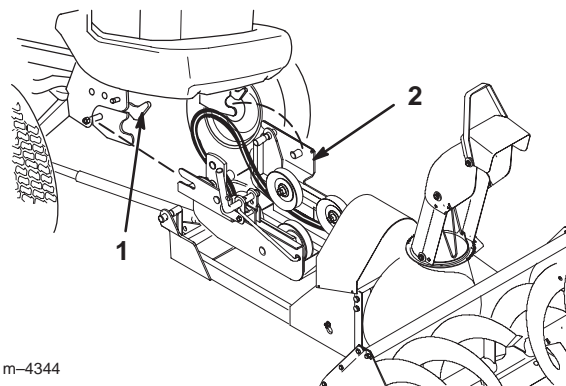

Figure 11
3. With the High-Low range selector in neutral "N," pull the tractor forward toward the snowthrower until the end of the snowthrower frame is just underneath the tractor's front Attach-A-Matic™ hitch (Fig. 11).
4. Ensure the latches on the tractor's front Attach-A-Matic™ are open. Then slide the pulley box completely into the Attach-A-Matic™ hitch. Close the latches by rotating them down (Fig. 11).